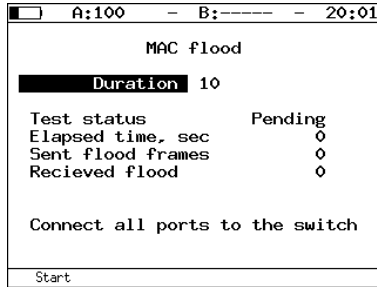

Figure 5.67. MAC flood menu
4. Port B receives the packets assigned to LAN port. If the count of the packets displayed in the **Received flood** field (see fig. 5.67) is more or equal to 4, the switch does not cope with MAC flood mode.